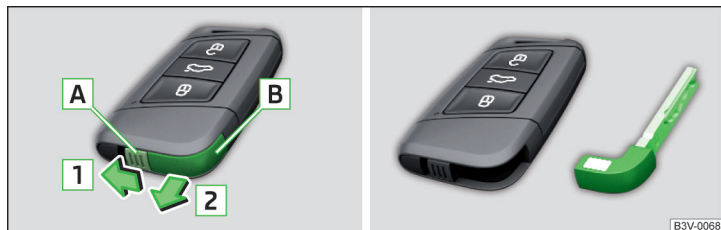

Fig. 49 KESSY key
- Remove retainer tabs **A** in the direction of arrow **1** » Fig. 49.